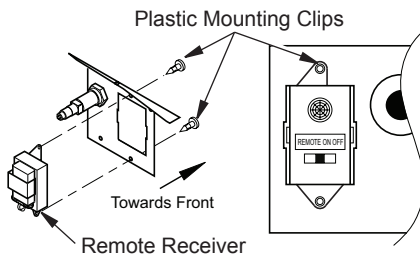

Figure 35 - Mounting Remote Receiver to Bracket
6. Use the clips to mount receiver on remote mounting bracket as shown in Figure 35.